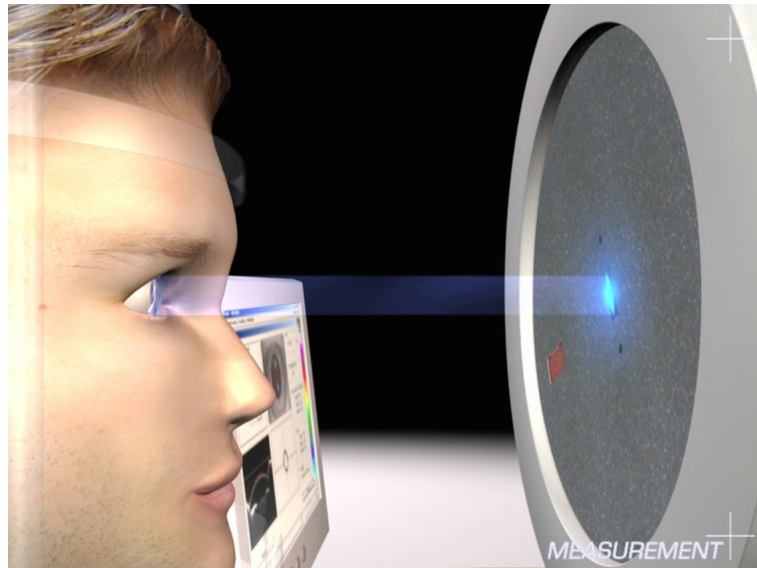

Fig. 10 Slit light on the cornea
8. Look at the patient's eye you are examining from one side and make sure that the blue slit light illuminates the cornea (see Fig. 10, page 32).